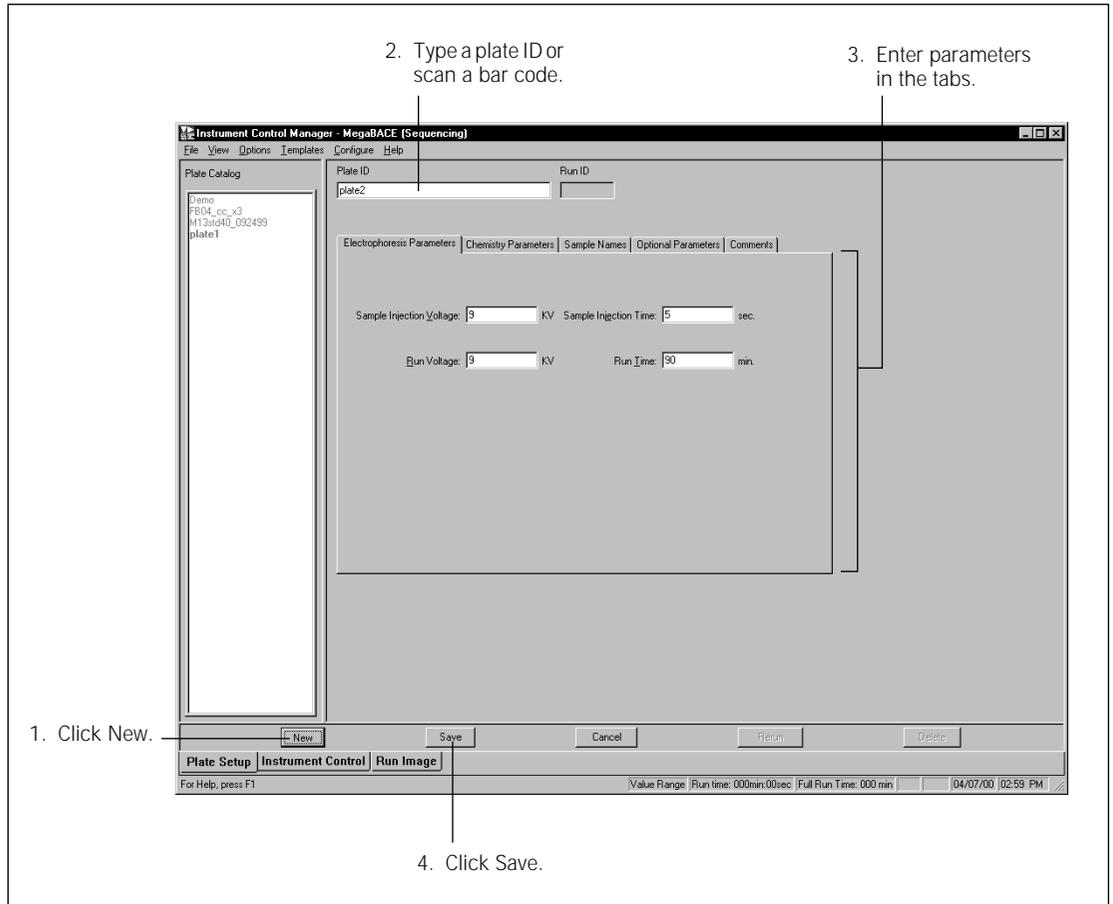

Figure 4-2. The Plate Setup window with the Electrophoresis Parameters tab displayed.
2. Click the **Plate Setup** tab to display the Plate Setup window (figure 4-2) and click **New**.
3. In the Plate ID box (figure 4-2), provide a plate ID (type the text or scan the bar code).
13. Click **Save** in the Plate Setup window (figure 4-2). The plate definition is saved, and the new plate ID appears in the Plate Catalog.